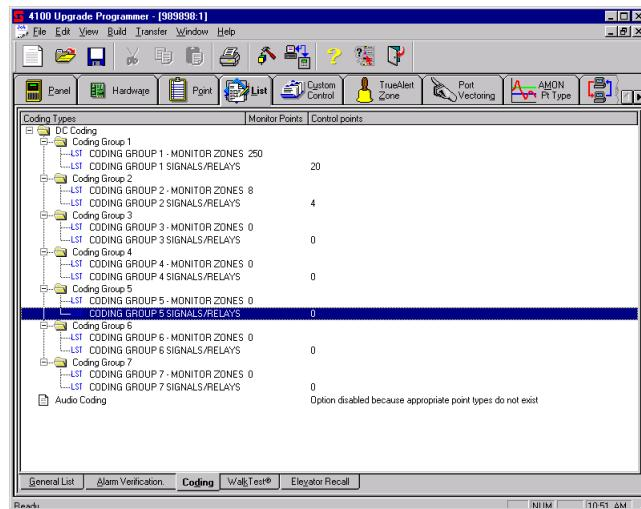

Figure 8-6. Coding Tab
2. Click on the Coding tab at the bottom of the List Window. A screen similar to the one shown in Figure 8-6 appears.
- Click on the WalkTest tab at the bottom of the List Window. Figure 8-6 appears.